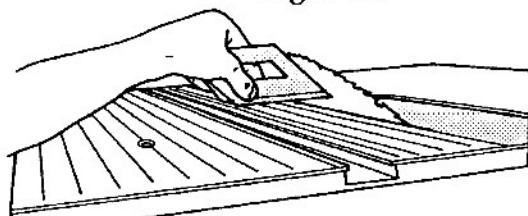

Fig. B-37
36. Place a precision 45° miter square against the table and saw blade, as shown in Fig. B-37.